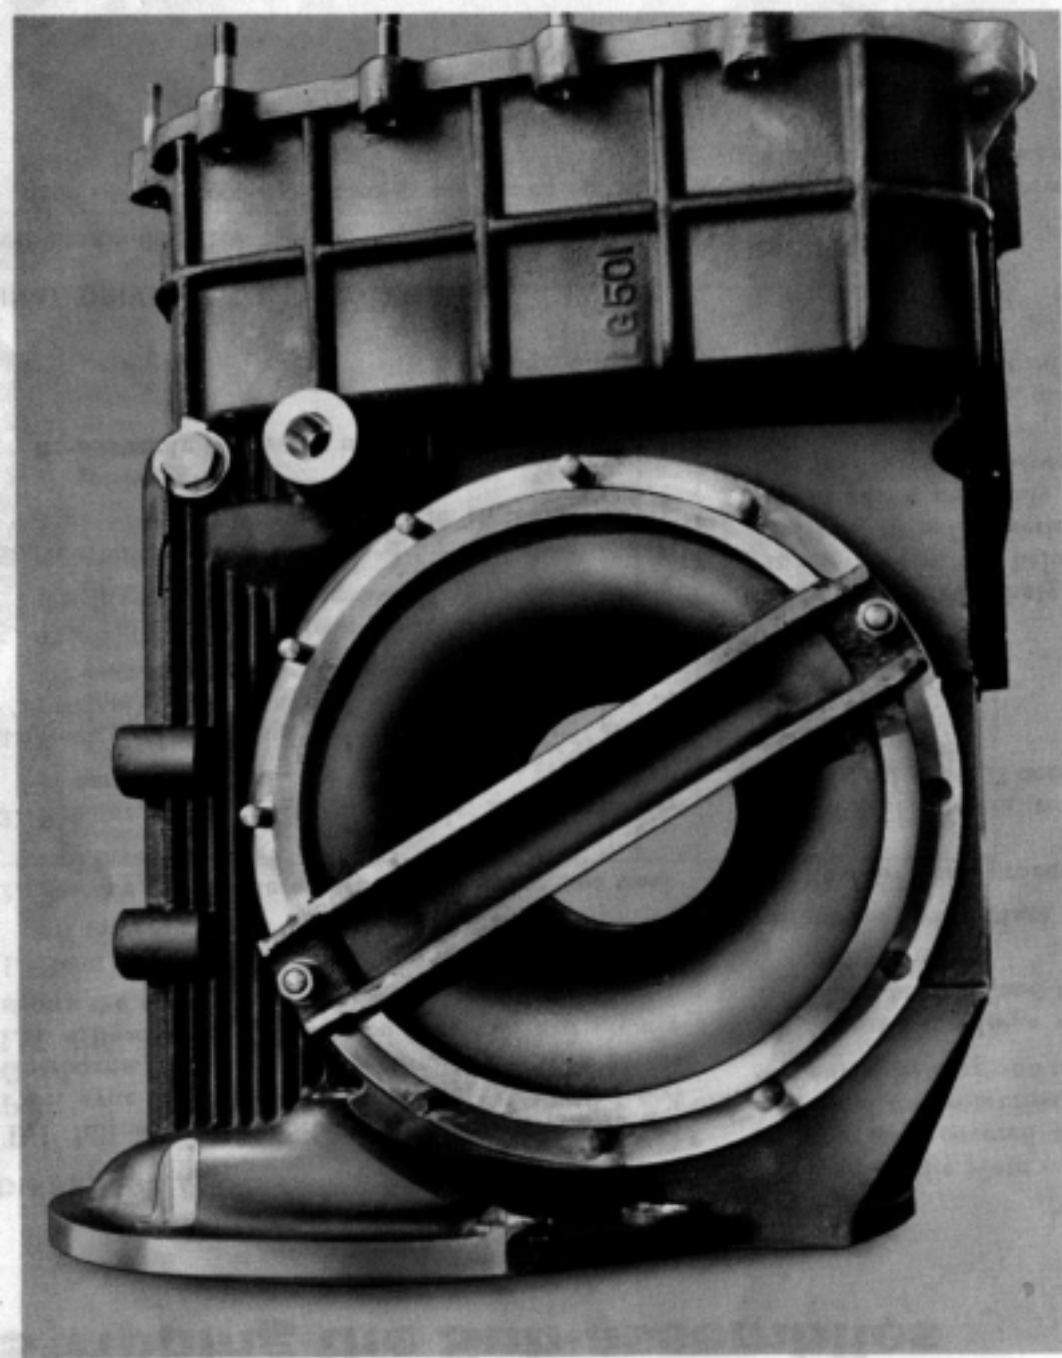

Fig. 3. The Hewland setting gauge in position
1. Assemble setting gauge to main case. (Fig. 3)